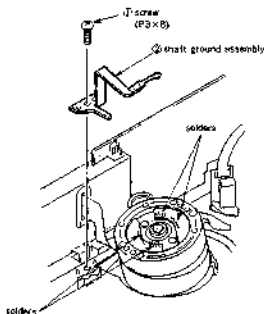

Fig. 2.
- 4) Solder 16 points on the rotary upper drum board (See FIG. 2)
- 5) Fix the shaft ground assembly ② using the screw ① (P3 - 8) so that the protrusion of the shaft ground assembly end contacts the center of the drum shaft. (See Fig. 2.)